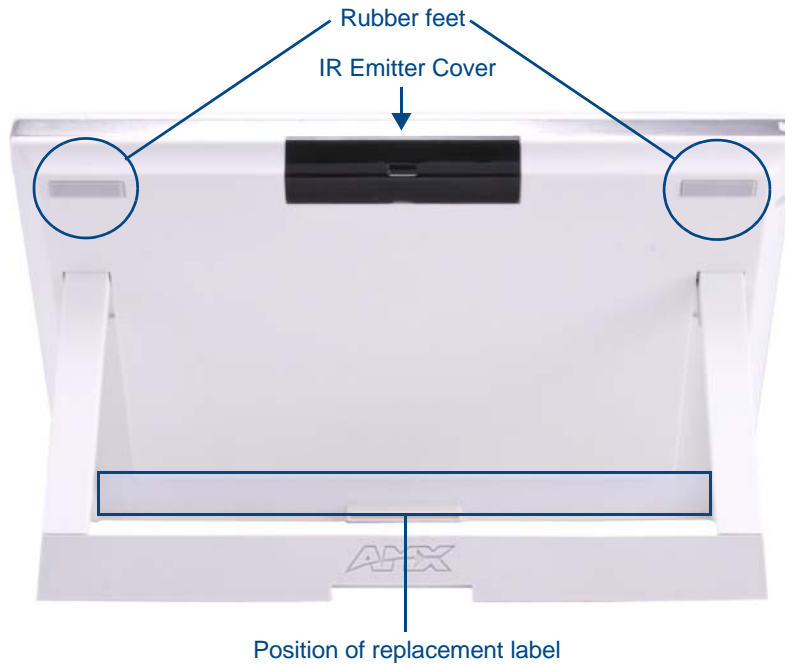

FIG. 125 Rear of the MVP-9000i-WH
4. Insert the seven screws and replace the rubber feet atop the two upper screws, using the replacement rubber feet included in the Battery Pack Kit. Replace the bottom label over the three bottom screws, using the replacement label included in the Battery Pack Kit (FIG. 125).